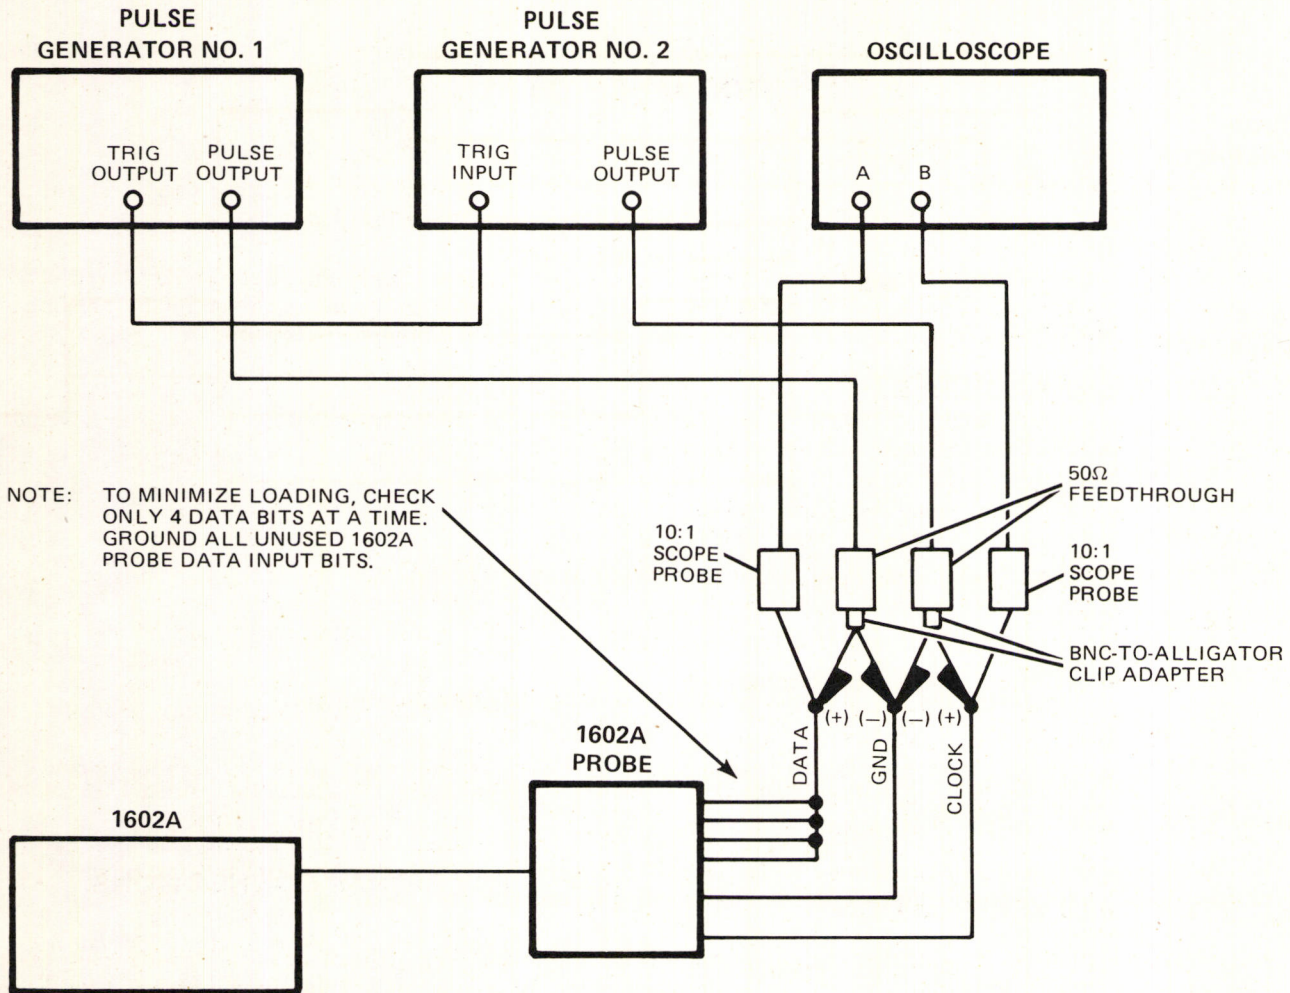

Figure 4-1. Clock, Data, and Clock Qualifier Probe Inputs Test Setup
- a. Connect test equipment as shown in figure 4-1.